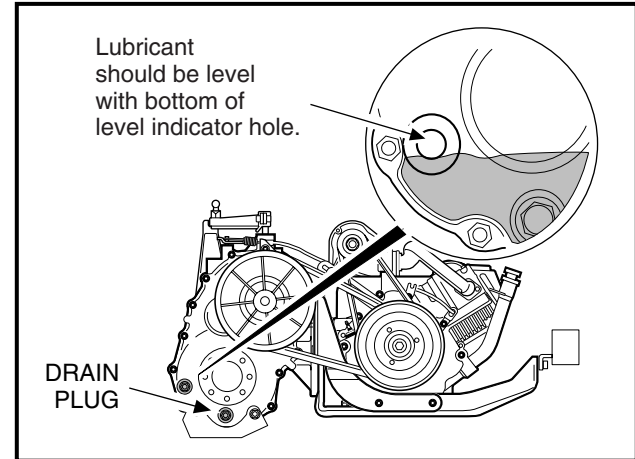

Figure 19-3 Lubricant Level
There are two plugs located on the right (driven clutch) side of the transaxle (**Figure 19-3, Page 19-2**). When the vehicle is on a level surface, the upper plug is used as a lubricant level indicator. Lubricant level should be even with the bottom of level indicator hole. The lower plug is used for draining lubricant. When draining lubricant, remove both plugs to allow the lubricant to drain faster. Be sure the drain plug and gasket are cleaned and reinstalled before filling the transaxle with new lubricant. Use a funnel and fill through the top level indicator hole. Fill with 29 oz. (.85 liters) 80-90 WT.API class GL-3 or 80-90 WT.AGMA class 5 EP gear lubricant. Lubricant should fill to lower edge of indicator hole. Tighten the plug to 20 ft-lb (27.1 N-m). See Periodic Lubrication Schedule, Section 10, in the Maintenance and Service manual for this vehicle.
1. Remove the drain plug and gasket. Drain and dispose of the oil properly (**Figure 19-3, Page 19-2**).